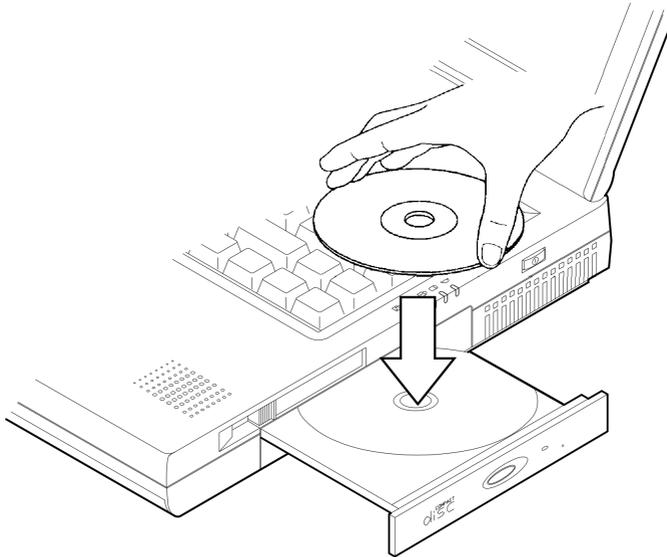

**Figure 2-16**
6. Push the latch in the indicated direction and pull the CD-ROM module out of the tray (Figure 2-16).